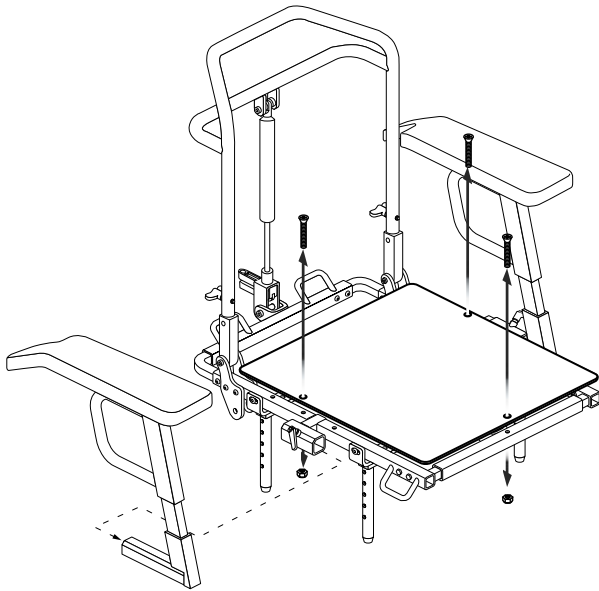

Figure 7. Remove the Plastic Seat Pan
1. Remove the three (3) socket flat head screws and three (3) Nylock nuts that secure the plastic seat pan to the side rail weldments using the 5/32-in. hex key and 7/16-in. open-end wrench. See figure 7.